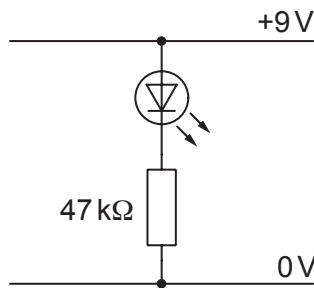

Fig. 12.2
- (ii) Fig. 12.2 shows a test circuit for the LED.